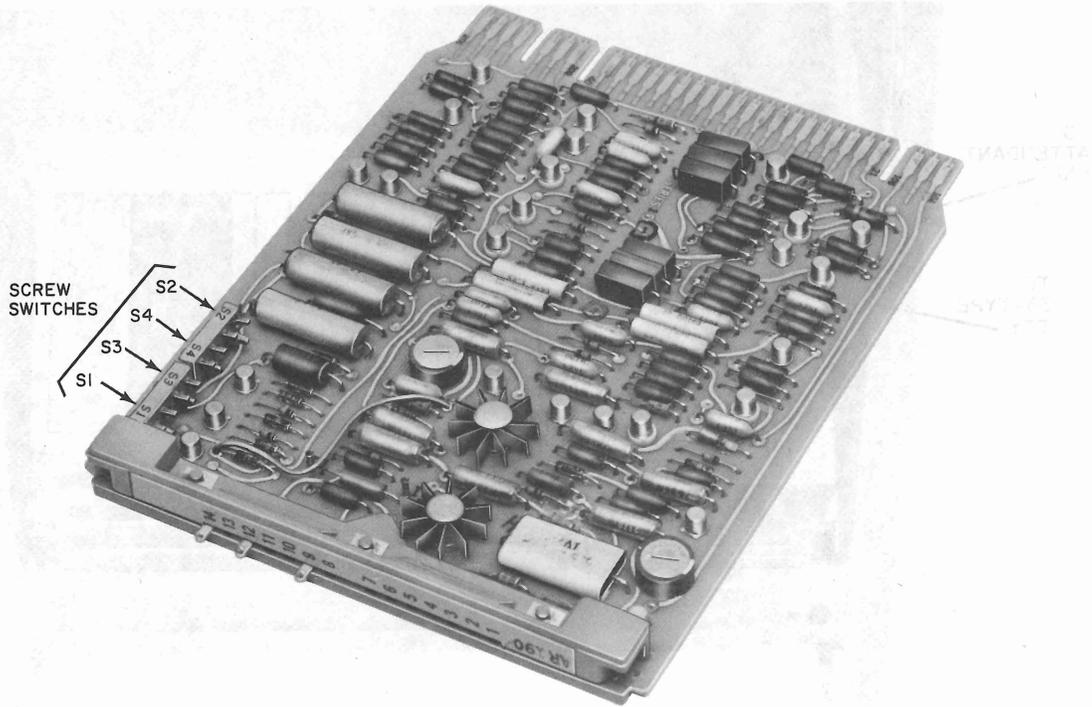

Fig. 13—AR190 CP Screw Switch Terminals—Location and Designation
**3.01** The options to be used at a station are provided by setting the screw switches or rocker arm switches on the DAS 820G- or 820J-type circuit packs. The circuit packs are shown in Fig. 13 through Fig. 27. The screw-switch settings for the DAS 820G1 are indicated in Table B. The screw-switch settings for the DASs 820G-L1/4 and 820G-L1/5 are indicated in Table C. The rocker switch settings for the DAS 820J-type options are shown by Table D. Condition the station for the desired service by removing the circuit packs indicated in Tables B, C or D and set the switches to obtain the desired function. Refer to the previously referenced figures for switch designations.